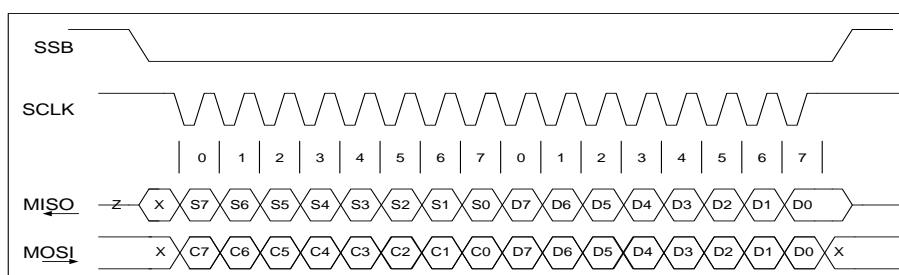

Figure 8-1 SPI Data Transaction Waveform
A standard four-wire Serial Peripheral Interface (SPI) is used for communication between the ISD2360 and the host. The interface consists of an active low slave-select (SSB), a serial clock (SCLK), a data input (Master Out Slave In - MOSI), and a data output (Master In Slave Out - MISO). Also, for some transactions requiring data flow control, a RDY/BSYB signal (pin) is available. The ISD2360 supports **SPI Mode 3**: (1) SCLK must be high when SPI bus is inactive, and (2) data is sampled at the rising edge of SCLK. An SPI transaction begins on the falling edge of SSB and its waveform is illustrated in Figure 8-1.